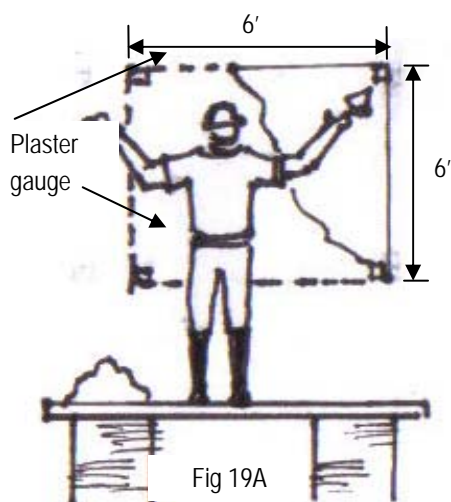

Fig 19A
- Made sure that an even thickness and true surface is maintained by placing plaster pads of the desired thickness positioned at about 6' x 6', horizontally and vertically to serve as gauges. The surfaces of these pads serve as gauges to show the true plane of the plaster surface (See fig. 19A)